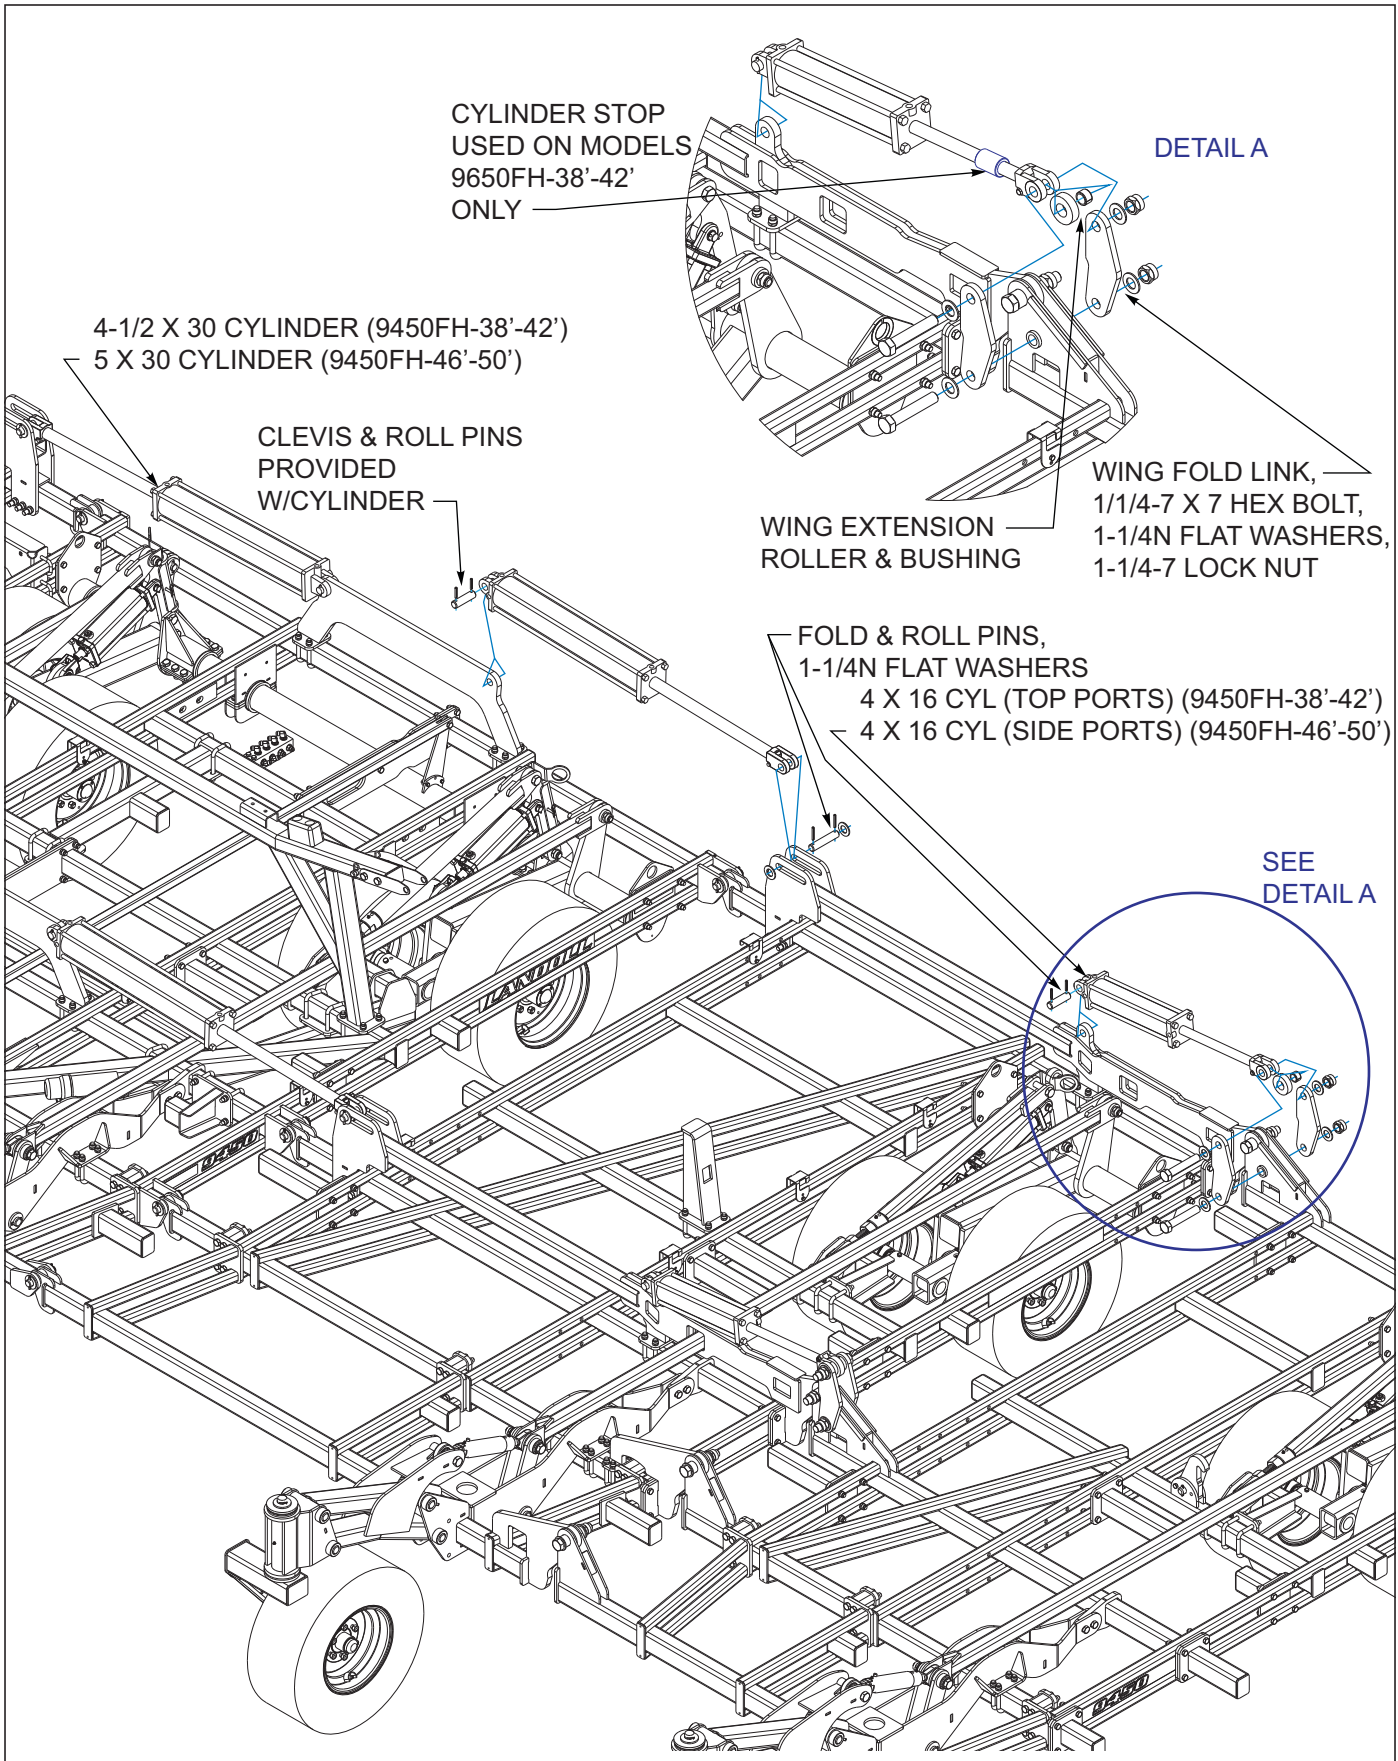

Figure 3-11: Fold Cylinder Installation
Refer to **Figure 3-11** for hydraulic cylinder installation models 38' 9450FH38/42'.
2. Using 1-1/4 x 6-1/8 fold pin, 1-1/4N flat washers, and 5/16 x 2-1/2 spring slotted pins, attach the rod end of the fold cylinders to the slotted mounts on the inner wing frames **See Figure 3-11**
3. Using a 1-1/4-7 x 7 hex head cap screw, flat washers, wing extension roller, and hex lock nut, attach the rod end of the 4 x 16 hydraulic cylinders to the fold links on the double hinge **See Figure 3-11**. Do not over-tighten screws. Fold links should pivot freely without binding or dragging. Tighten screws to remove excess slack, but still allow fold links to flex, and rotate bolt by hand.